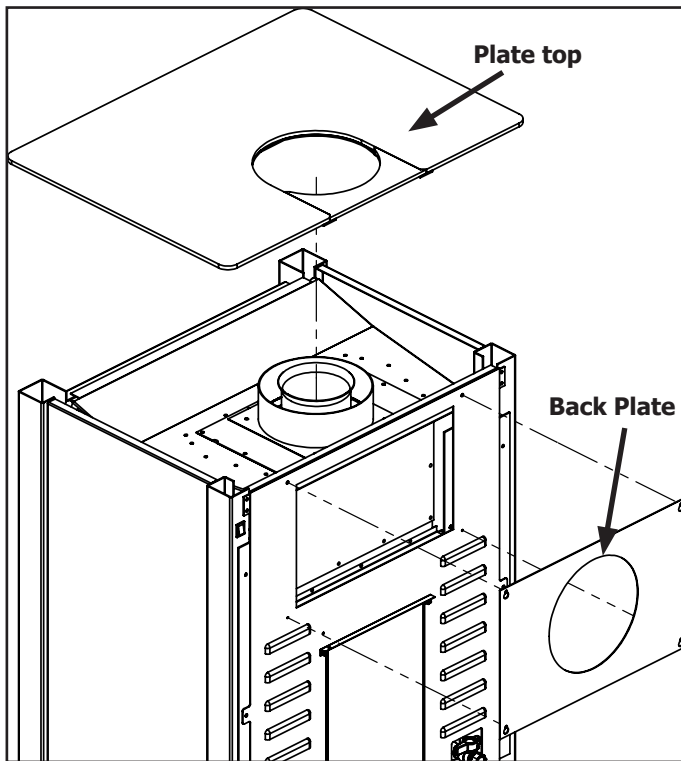

Figure 23. Vent Conversion - Step 1
**Step 4:** Re-install the cast top by aligning the bolt heads on the bottom side with the rear mounts (see Figure 23). Re-install the back plate and tighten the four retaining screws. Finally, install the cast vent cover supplied with the S20I as shown in Figure 26.